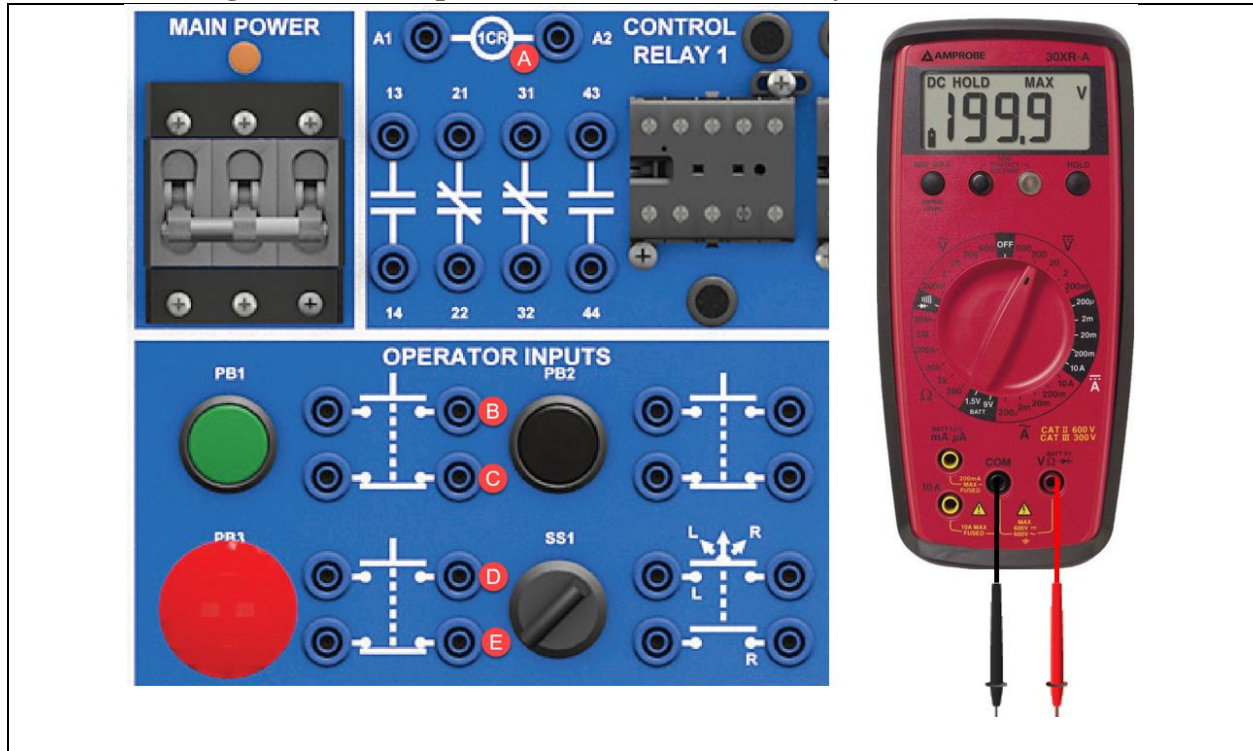

**Figure 1. The Amatrol Motor Control Training Unit at South Ark CC.**
\*This lab should be performed in the Advanced Manufacturing Lab, on the Motor Control System training unit shown in Figure 1.
1. Access the Motor Control System training unit and a digital multimeter, as shown in Figure 1.